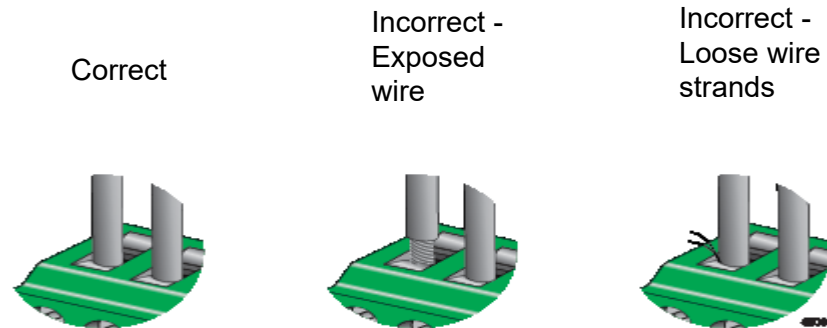

Figure 41. Verify Wire Installation
7. After inserting the wires to the connector, verify that there are no exposed wires or loose wire strands. Refer to Figure 41 on page 84.